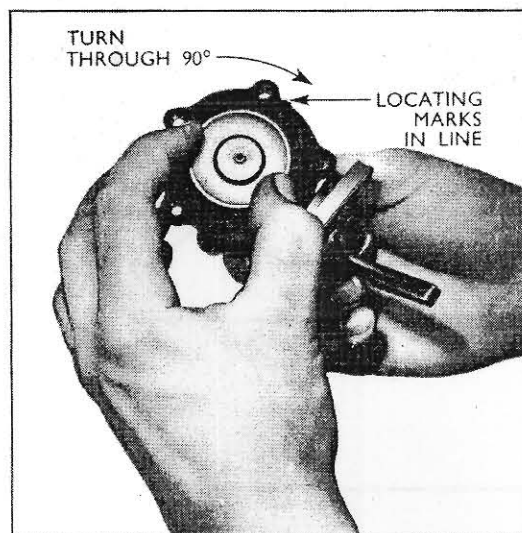

Fig. 36.
5. Assemble the spring, oil seal washer and oil seal to the diaphragm pull rod, taking care to avoid damaging the seal. Insert the end of the rod in the slotted end of the link, engaging the groove in the pull rod end by turning the diaphragm a quarter of a turn (see Fig. 36), so that the small tab on the diaphragm aligns with the mating mark on the lower body flange.